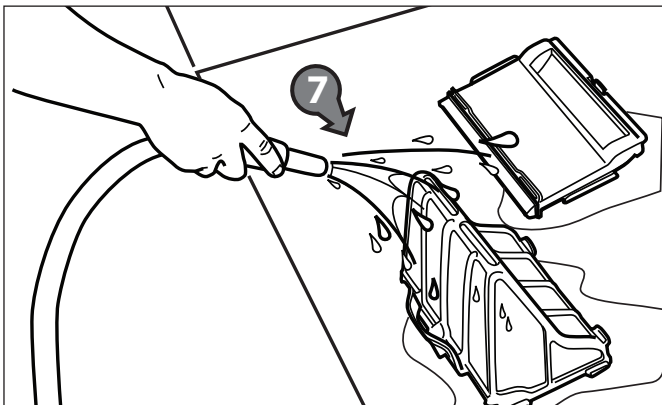

Figure 25. Wash Filter Canister
7. Empty all debris from the filter canister, then rinse the canister, the filter support and the cleaner using a hose, as shown in Figure 25.